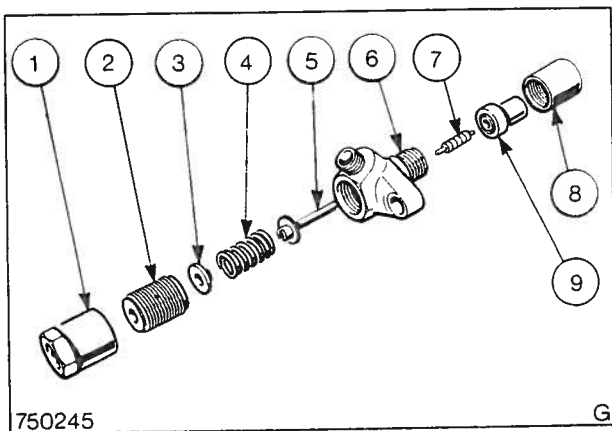

Fig. 78 Bosch Injector
2. Remove the injector cap nut and unscrew the spring adjusting nut using a 5 mm Allen key. Remove the spring, spindle and spacer, Fig. 78.